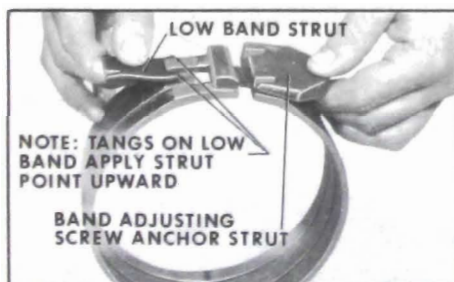

Figure 5-316
3. This picture is for illustration purposes only. It shows the proper positioning of the low band apply strut and band adjusting screw anchor strut. See Figure 5-316.